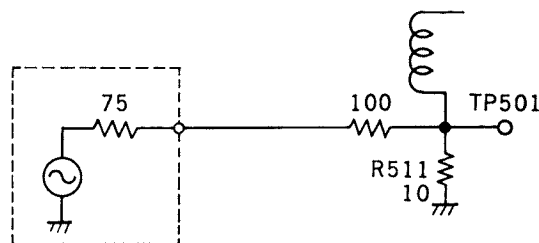

Fig. 9
1. Connect the SG to TP-501 through a 100 ohm resistor as Fig. 9.